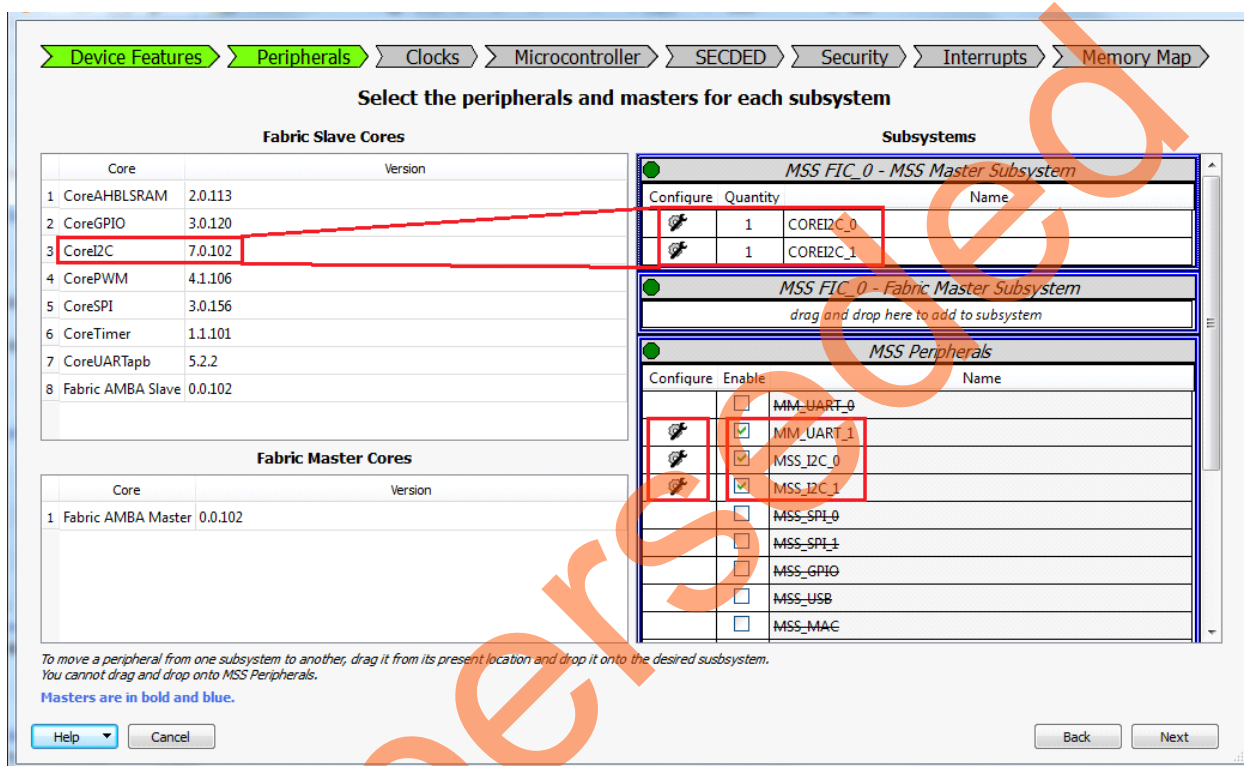

Figure 8 • System Builder - Peripherals Page
1. The **System Builder** window is displayed with **Device Features** page by default. Click **Next**, the **System Builder - Peripherals** page is displayed. Drag two instances of CoreI2C and drop on to the **MSS FIC_0 - MSS Master Subsystem**. Figure 8 shows the **Peripherals** page.
3. The design uses MMUART and I2C MSS peripherals. Select **MM_UART_1**, **MSS_I2C_0**, **MSS_I2C_1** and uncheck all other peripherals (refer to Figure 8).